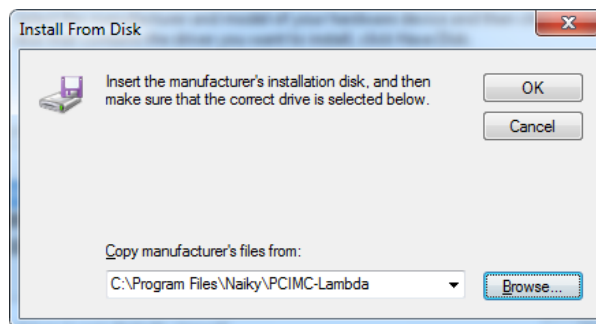

Fig. 1-8 Confirm the file directory
- 6) After selecting the corresponding driver file, click [Open] to return to the previous page, showing the file directory under “Copy manufacturer’s files from”, see Fig. 1-8.